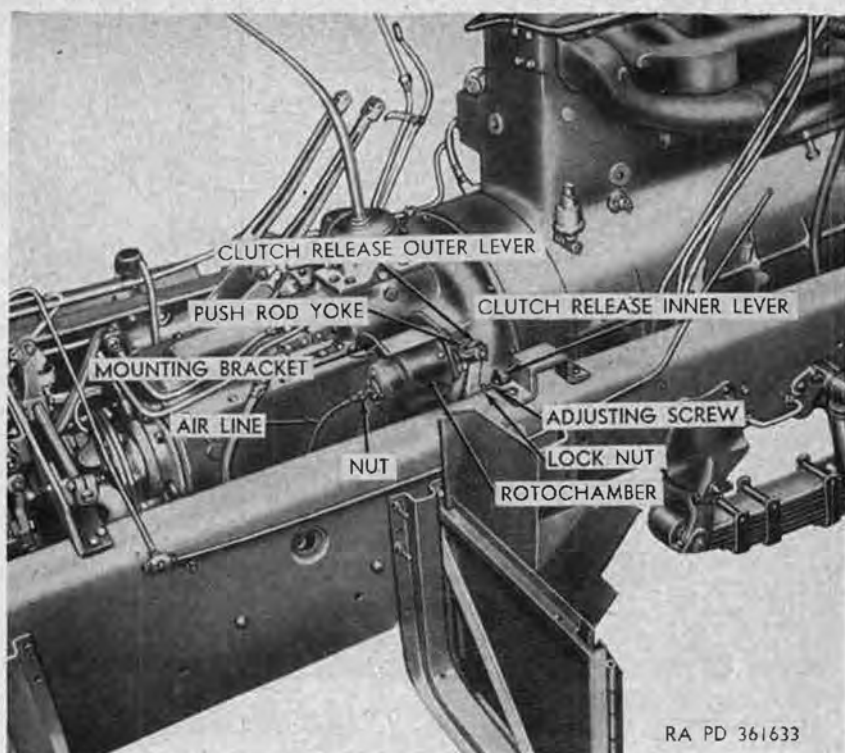

Figure 146. View of upper right front section of transmission with roto chamber.
- (9) *Disconnect clutch-control-valve-to-rotor chamber air line (M62 only).* Unscrew nut securing air line (fig. 146) to rear of rotor chamber, and remove air line connecting rotor chamber to clutch control valve at rear of vehicle.
- (8) *Connect clutch-control-valve-to-rotor chamber air line* (M62 only). Position clutch-control-valve-to-rotor chamber air line (fig. 146) at rear of rotor chamber, and tighten connector.
- (9) *Connect front ground straps.* Slide terminals on ends of radiator ground strap and engine front ground strap (fig.